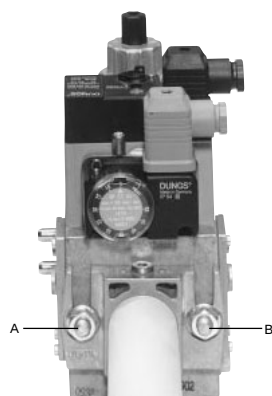

Fig. 4
3. tighten screws A, B, C and D (Fig. 4 - Fig. 5), according to the mounting positions (Fig. 7);